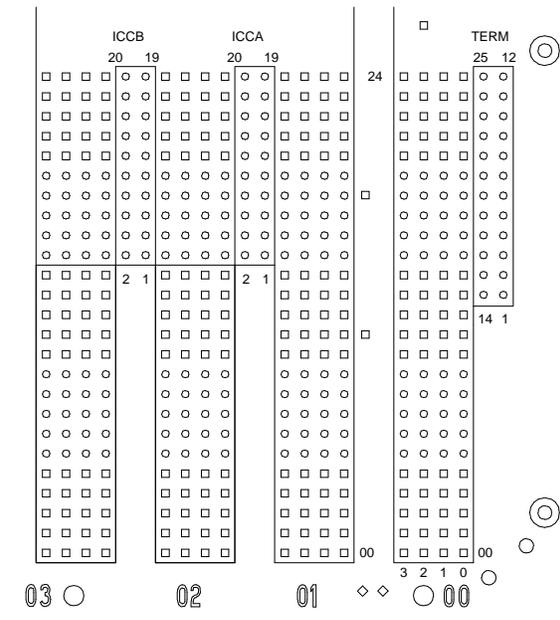
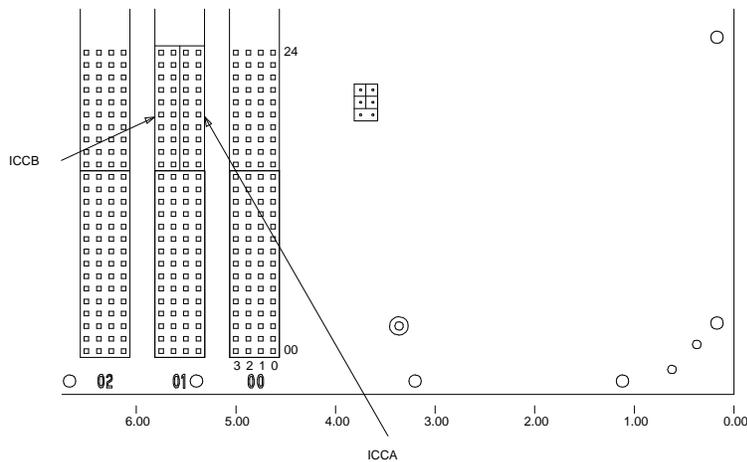

Figure 8-10. ICC Pin-Field Blocks on J58890N Expansion Control Cabinet
Figure 8-11. ICC Pin-Field Blocks on J58890H Port Cabinet
2. Connect the new ICC cables (H600-248 G1) as shown in Figure 8-5 on page 8-33 and Figure 8-10 on page 8-33 and Figure 8-11.
3. On the "A" carrier, verify that the CFY1 current limiter (CURL) is properly connected to pin-field block "00" (see Figure 8-10). The CURL's components should be on the left side as viewed from the rear.